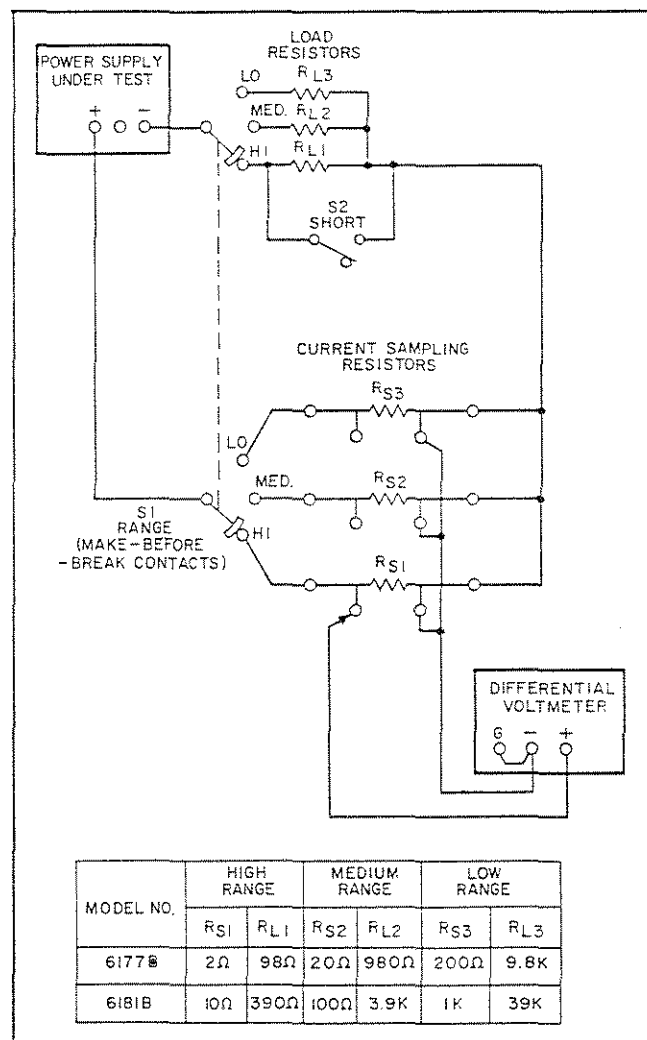

Figure 5-3. Output Current Test Setup
5-9 The monitoring device is connected across the sampling resistors as shown in Figure 5-3. As indicated in this illustration neither output terminal of the power supply is grounded and the measuring device case is connected to the junction of the load and sampling resistors. This arrangement prevents ground loop paths and shunt current paths. Notice that shunt resistance paths between the external switches and ground can exist. However, since the shunt resistance appears across only one of the external resistors and not across the entire output terminals of the supply, the performance of the supply is not degraded.
- Connect test setup shown in Figure 5-3, leaving switch S2 open throughout test.
a. Connect test setup of Figure 5-3 except connect the differential voltmeter between the guard (terminal A0) and - output terminals (see Figure 3-7 for voltmeter connections).
- a. Connect test setup shown in Figure 5-3.
- a. Utilize test setup shown in Figure 5-3, except connect variable auto-transformer between input power source and power input to supply. Leave switch S2 open throughout test.
- a. Use test setup of Figure 5-3, except connect ac voltmeter across sampling resistors instead of differential voltmeter. Ensure that power supply output is floating to avoid ground loops.